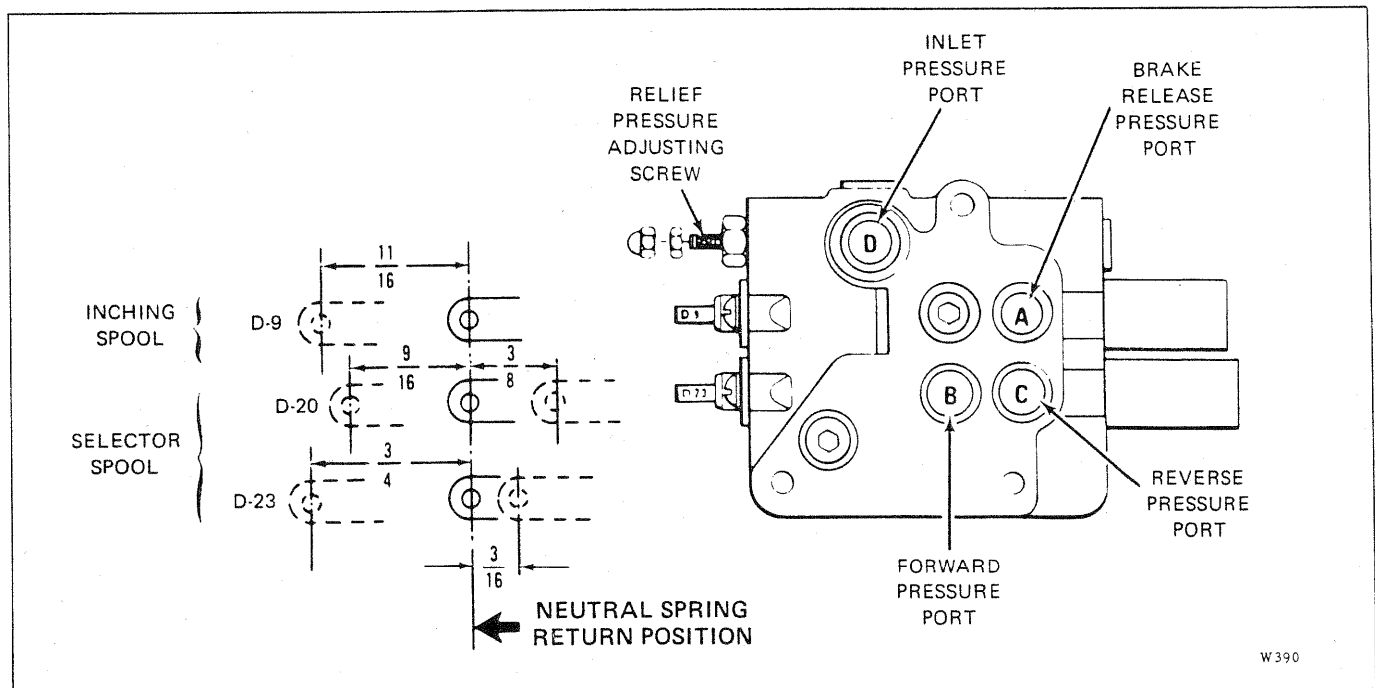

FIGURE 4-11. CONTROL CABLE ADJUSTMENT DIAGRAM
- Remove protective acorn nut from relief valve adjusting screw (Figure 4-11).
4-26. ADJUSTING THE CONTROL CABLES. (See Figure 4-11.) Two teflon lined control cables connect the handling gear assembly to the winch control valve. Be certain that each control cable housing is securely anchored on each end before making any adjustments. The control cable adjustment determines spool travel in the control valve. The distance each spool travels is extremely important. In all cases, the spools are stopped internally at their extremes and should be adjusted to these locations. The correct spool travel should be obtained first, then the measured spool travel should be double checked by making pressure checks when the winch is operating.